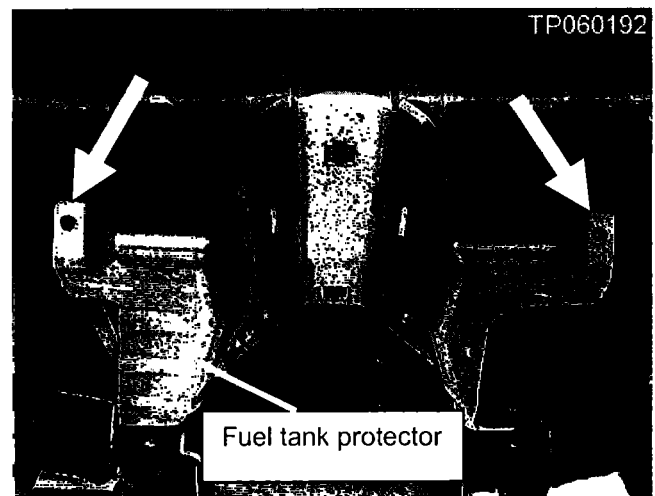

Figure 50
4. Remove the nuts shown in Figure 50.